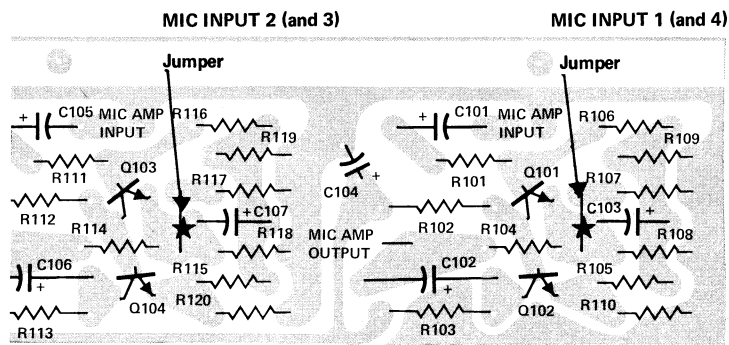

FIG. 7-1 MIC STAGE JUMPERS
5. Mic gain may be semipermanently altered by means of jumpers on the main boards (see fig. 7-1). Removal of the jumpers lowers the gain by 20dB and increases the maximum input level. If overload is a problem remove the jumpers.
The microphone inputs stages are designed to accommodate a wide range of input levels. A dual gain feature is employed so that the operator may select the amount of gain to suit his particular needs. (See fig. 7-1 and Note5 in section 7.1.3).